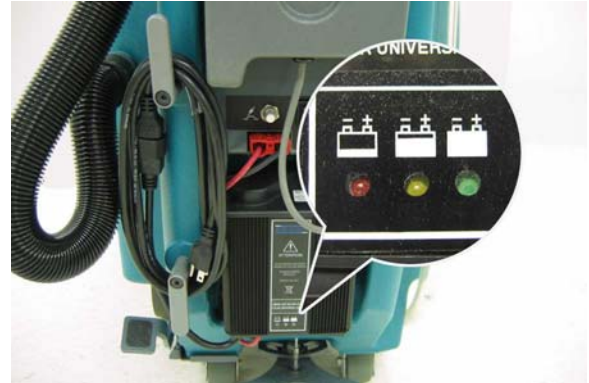

FIG. 33
- Once the charging cycle begins, the indicator lights will progress from red, yellow to green (Figure 33). When the green indicator light comes on, the charging cycle is done. Unplug the charger cord.